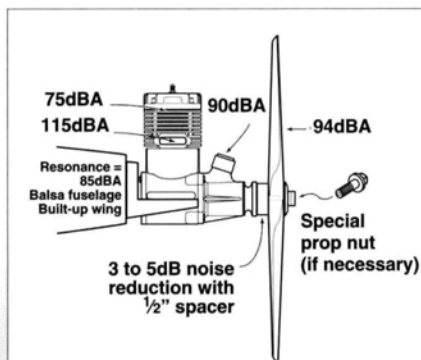

Figure 14. 1/2" spacer.
The Wasp (Figure 14, Part 1) is another version. The pusher engine is just behind the front wing. The aft wing and vertical surfaces were supported on booms. This model was very stable, but it had no flaps owing to its low wing loading.
2. Avoid having objects, e.g., a cowl or a carburetor, close to the propeller; use a spacer (see Figure 14).
using the spacer as shown in Figure 14 or by using an engine with rear intake.